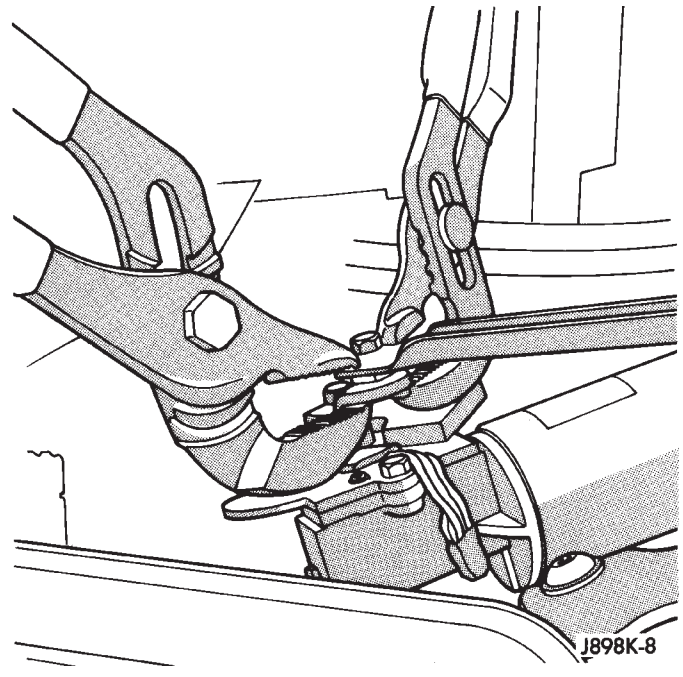
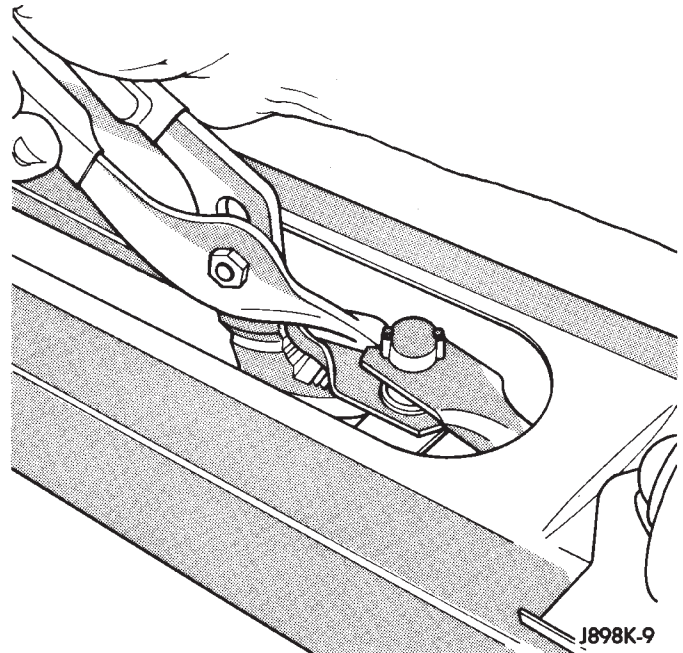

Fig. 8 Install Drive Arm On Motor
Fig. 9 Connect Drive Arm To Pivot Shaft
- (1) Install wiper linkage drive arm onto motor (Fig. 8).
- (2) Install pivot shaft assembly in windshield frame.
- (3) Install motor and drive arm in windshield frame.
- (4) Install weatherstrip screws.
- (5) Connect wiper linkage drive arm to pivot shaft (Fig. 9).
- (1) Install wire harness through hole in top of instrument panel.
- (2) Connect wiper motor connector behind instrument panel.
- (3) Install intermittent wipe module bracket to bottom of instrument panel.
- (4) Turn wipers on to allow motor to cycle to park position.
- (5) Install wiper linkage drive arm onto motor (Fig. 8).
- (6) Install motor and drive arm in the windshield frame.
- (7) Connect wiper linkage drive arm to pivot shaft (Fig. 9).
- (8) Install motor mounting screws. Tighten screws to 10.5 N·m (96 in. lbs.).
- (9) Install wire harness retaining clip on bottom of windshield.